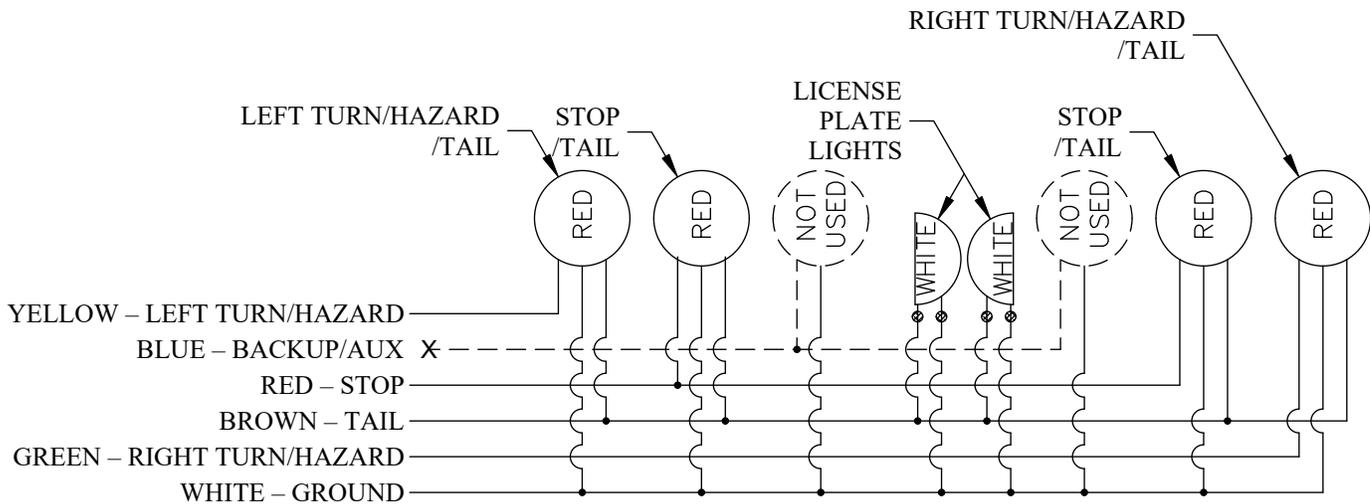

Figure 19: Light kit wiring diagrams.
21. **Connect** the provided wiring harness to the vehicle's existing wiring (Figure 19).